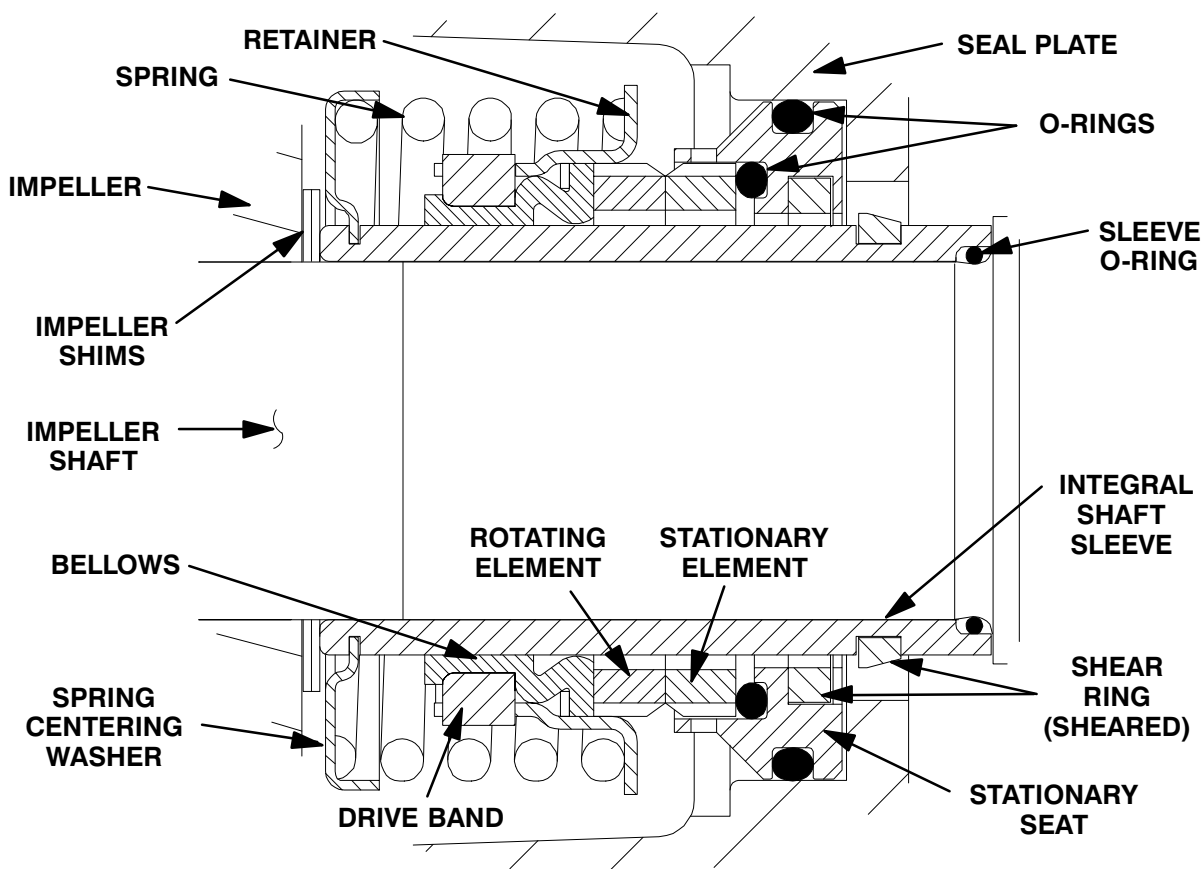

Figure 8. Cartridge Seal Assembly
To ease installation of the seal, lubricate the shaft sleeve O-ring (27) and the external stationary seat O-ring with "P-80[®] Emulsion" or water. See Figure 8 for seal part identification.